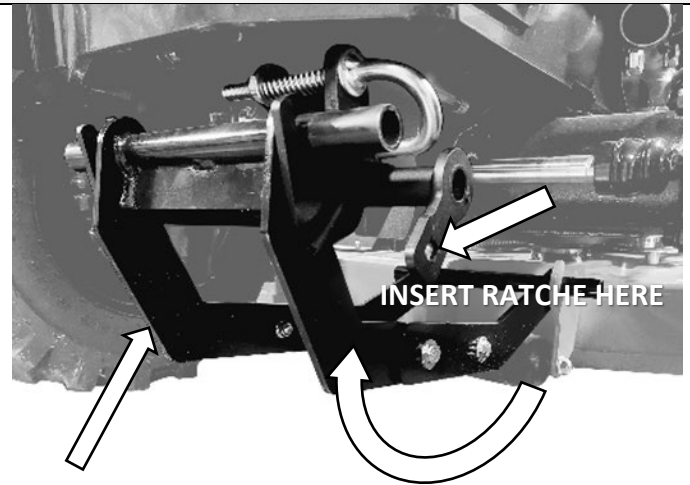

Figure 9C
9. Place the front portion of the Front Pull Bar into the Front Hook bar and use a 1/2" drive ratchet to swing the Front Pull bar into position (Figure 9C).